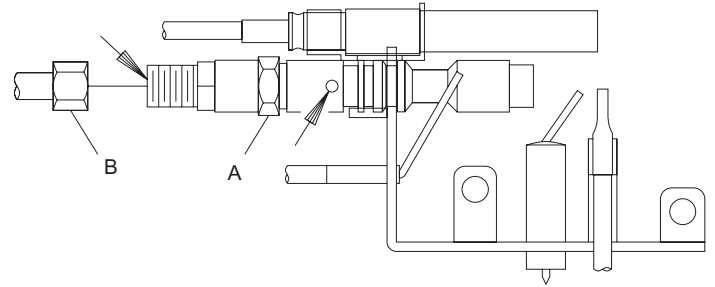

Figure 24 VFDR
**Cleaning and Maintenance/Pilot Oxygen Depletion Sensor Pilot (Figures 24 and 25)**